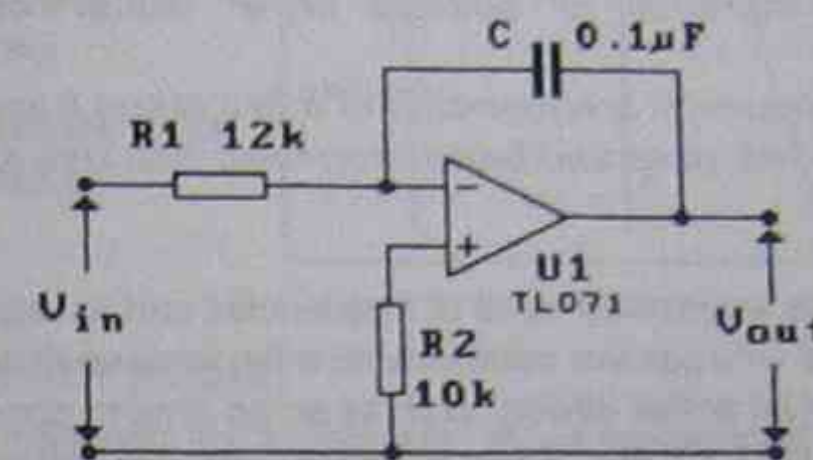

Fig.1
- For the circuit of Fig.1, calculate the output voltage after 2ms, if -5V is applied to the input. Assume the output voltage was 0V prior to connecting the -5V input voltage.